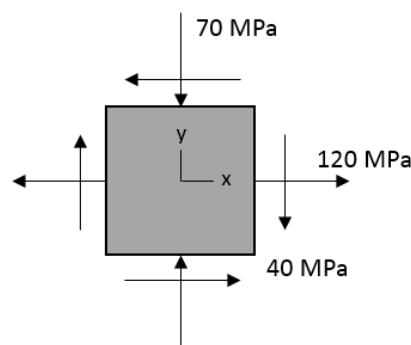

Figure 7/ Rajah 7
5. Determine the equivalent state of stress on an element at the same point for the following cases with respects to the element shown in **Figure 7** using Mohr's circle.